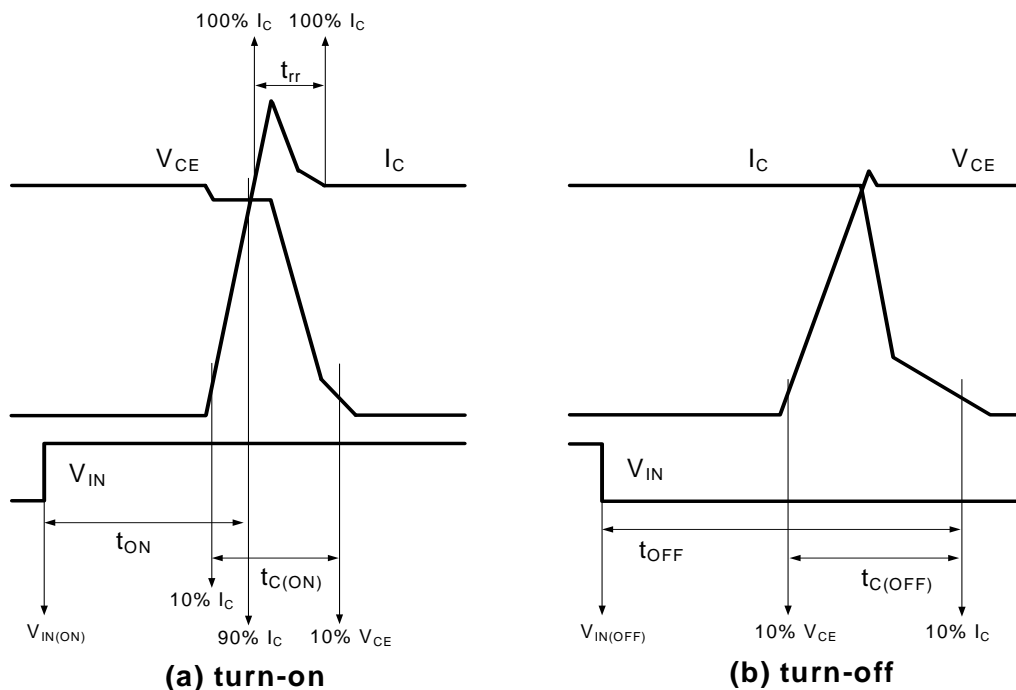

Figure 4. Switching Time Definition
8. t_{ON} and t_{OFF} include the propagation delay of the internal drive IC. $t_{C(ON)}$ and $t_{C(OFF)}$ are the switching time of IGBT itself under the given gate driving condition internally. For the detailed information, please see Figure 4.